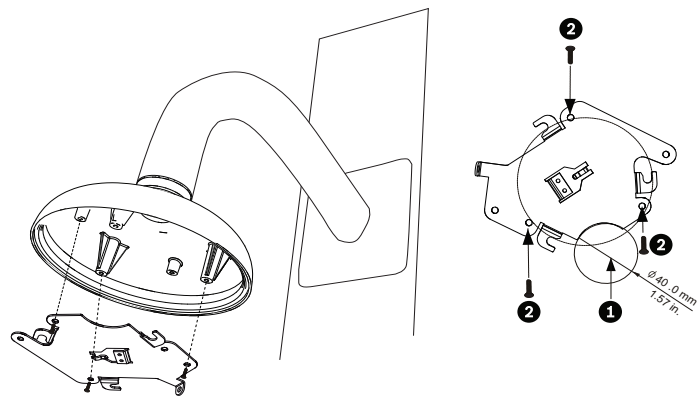

Figure 5.4 Attach Mounting Plate to Dome Cap
- 2. Route wires on side of mounting plate with crescent shaped cut-out (Ref. #2 Figure 5.4).